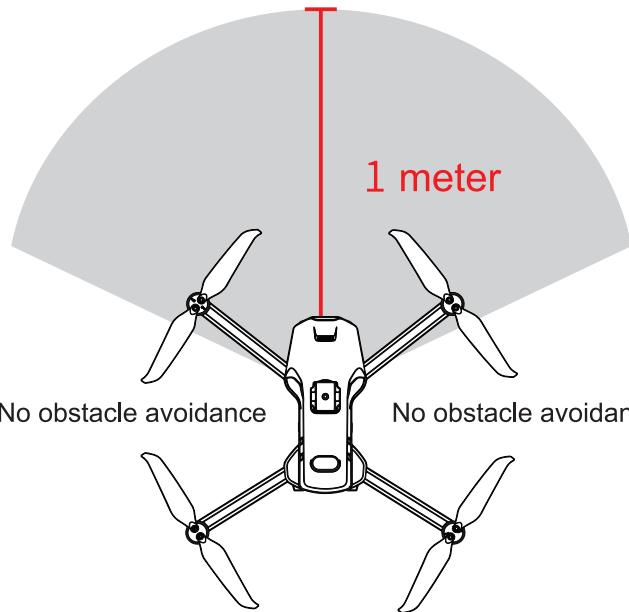

Figure 1
1. When the drone is flying, as shown in Figure 1, the effective scanning range of the obstacle avoider is 1 meter in front of the drone. The scanning path is approximately between the two arms in the flight direction. Scan around 90"